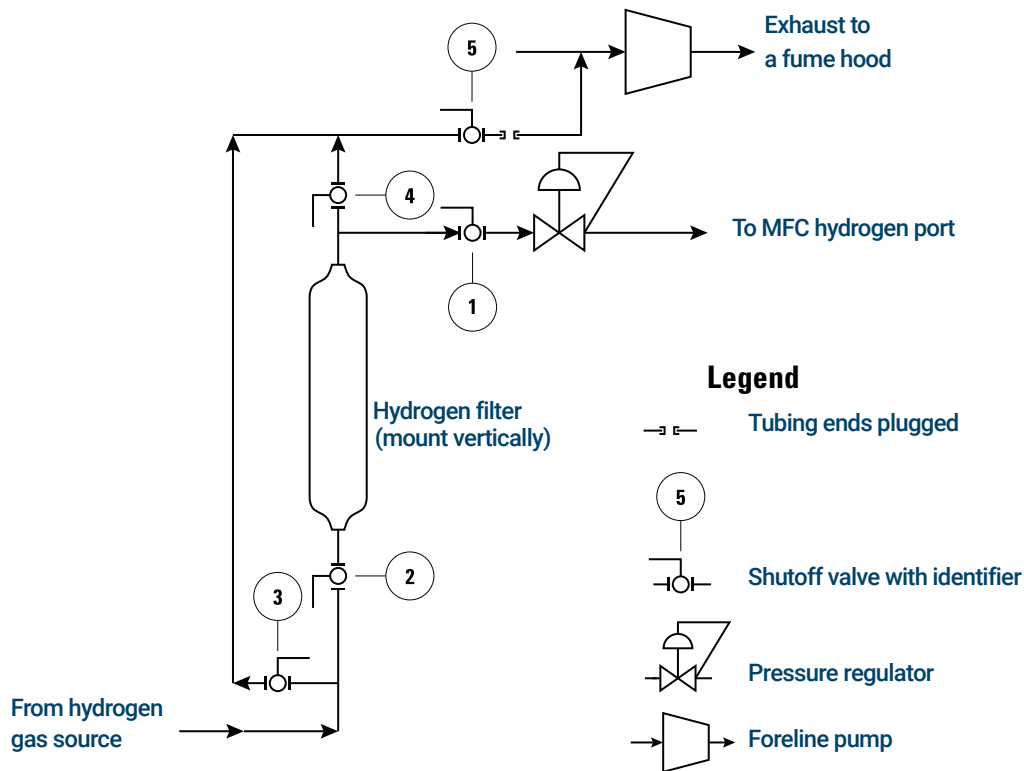

Figure 22. Filtered hydrogen supply to the MS
Figure 22 illustrates the plumbing for the hydrogen filter used with JetClean.
- 1 Close the hydrogen supply manual shutoff valve ① labeled hydrogen, to the mass flow controller (MFC). (See **Figure 22** on page 46.)
- 2 Close the manual shutoff valve ② on the hydrogen supply filter inlet.
- 5 Verify the filter bypass line exit shutoff valve ⑤ is closed and remove the threaded plug from this valve.
- 7 Attach the filter bypass line exit valve ⑤ to the tubing line attached to the foreline pump inlet.
- 10 Open the shutoff valve ⑤ on the filter outlet line going to the foreline pump inlet. This evacuates hydrogen from the filter through the foreline pump to a lab hood exhaust.
- 11 After 10 minutes, close the shutoff valve ⑤ on the filter outlet line going to the foreline pump inlet.